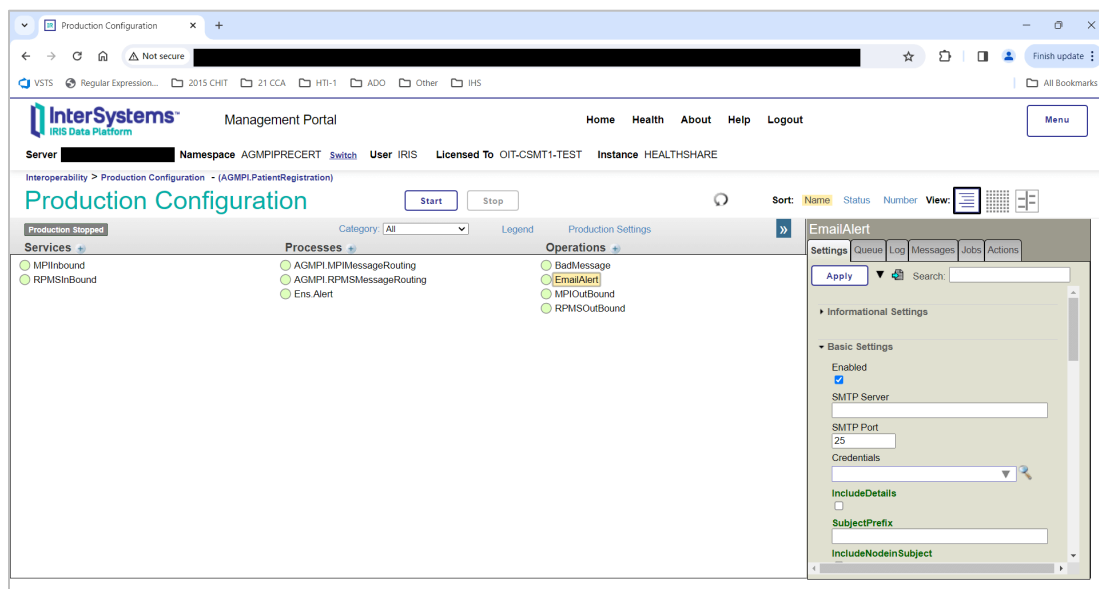

Figure 5-33: Production Configuration, EmailAlert settings
3. Click **EmailAlert** in the **Production Configuration** page to display the EmailAlert configuration settings in the **EmailAlert** pane, as shown in Figure 5-33.